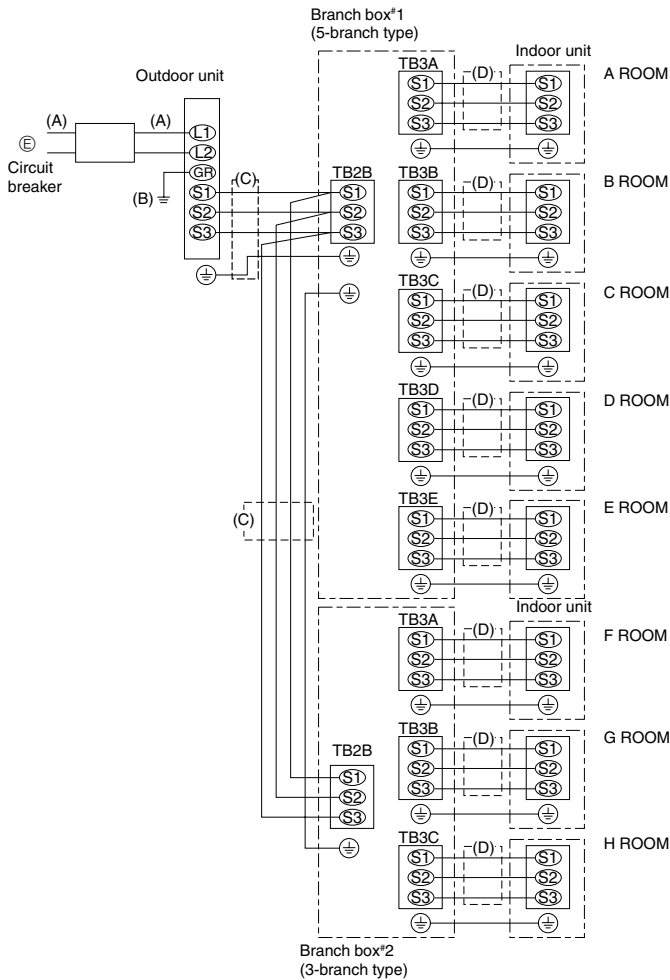

Fig. 7-3
7.3. External wiring procedure (Fig. 7-3)